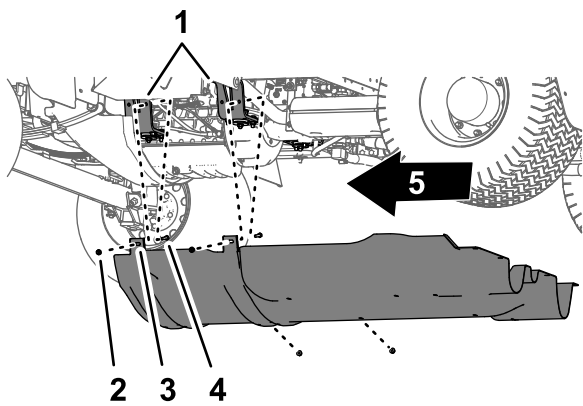

Figure 64
2. Remove the 4 flange locknuts (5/16 inch) from the bolts and carriage bolt that secure the mounting tabs of the undercarriage shroud to the engine-mount brackets of the machine (Figure 64).
4. Remove the undercarriage shroud from the machine (Figure 63 and Figure 64).
1. Align the undercarriage shroud to the bottom chassis of the machine; refer to Figure 64 in Removing the Undercarriage Shroud (page 52).
2. Move the mounting tabs of the undercarriage shroud over the bolts and carriage bolt at the engine-mount brackets of the machine; refer to Figure 64 in Removing the Undercarriage Shroud (page 52).
3. Assemble the undercarriage shroud to the engine-mount brackets and bolts (Figure 64) with the 4 flange locknuts (5/16 inch) that you removed in step 2 of Removing the Undercarriage Shroud (page 52).